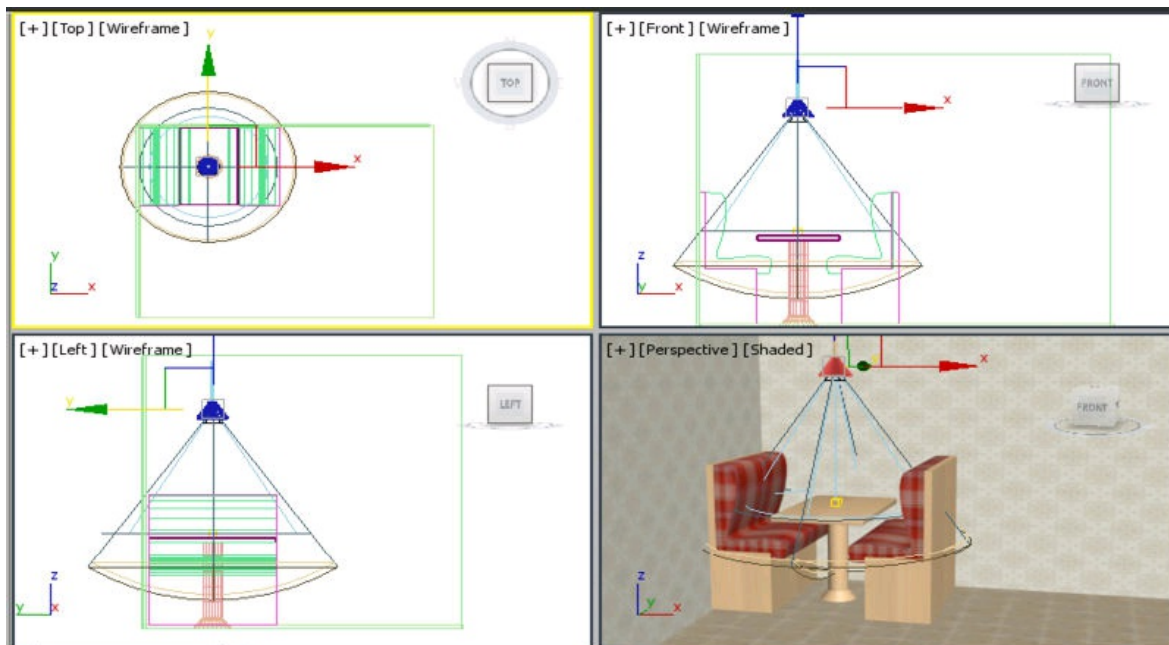

Figure P1-15 A light placed inside the lamp shade
34. In the **Intensity/Color/Attenuation** rollout, select the **Use** check box in the **Far Attenuation** area. Next, set **68** in the **Start** spinner and **70** in the **End** spinner. Now, align both *Spot001* and *Spot001.Target* to the center of *Shade*, as shown in Figure P1-15.